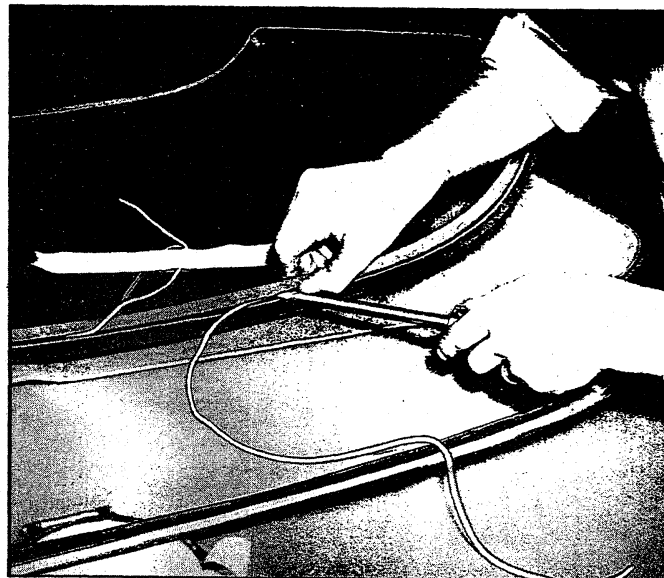

Fig. 21—Installing Cord
5. Starting at bottom center of glass, insert a piece of heavy cord such as chalk line, etc. in groove of weatherstrip. Cut cord long enough so that about 10" of free length exists after going around windshield. Knot ends of cord together where they meet at bottom center of glass and draw knot into groove (fig. 21). Tape loose ends to inside surface of glass as shown.